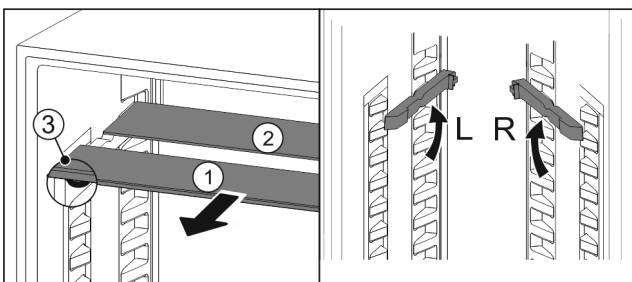

Fig. 48
- ▶ Pull the glass panels out Fig. 48 (1) from the front, one at a time.
- ▷ The glass panel Fig. 48 (1) and trim strip are at the front.
- ▷ The stops Fig. 48 (3) point down.